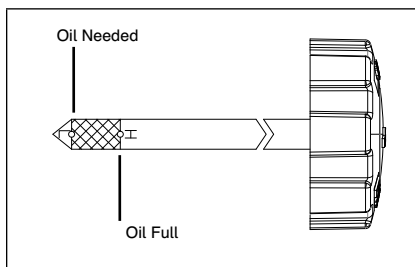

Figure 7
4. If the oil level is near or below the lower limit mark on the dipstick, remove the oil cap/dipstick, and fill with the recommended oil to the upper limit mark. Do not overfill (Fig. 7).